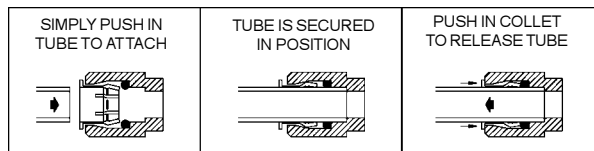

FIG. 12
To insert tubing, push tube straight into fitting until it reaches a positive stop. To remove tubing from the fittings, relieve water pressure, push in on dark gray collar while pulling out on the tubing. See Figure 12.
**Actuation of Quick Connect Water Fittings:** Fountain is provided with lead-free connectors which utilize an o-ring water seal. To remove tubing from the fitting, relieve water pressure, push in on the gray collar while pulling on the tubing.(see Fig.12) To insert tubing, push tube straight into fitting until it reaches a positive stop, approximately 3/4".